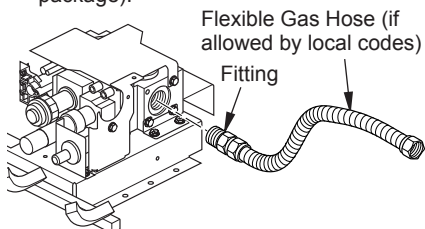

Figure 11 - Attaching Flexible Gas Hose to Heater
1. Apply pipe joint sealant lightly to male threads of gas fitting (not provided). Connect approved flexible gas hose to gas control fitting in heater (see Figure 11). **IMPORTANT:** Hold gas fitting with wrench when connecting flexible gas hose.